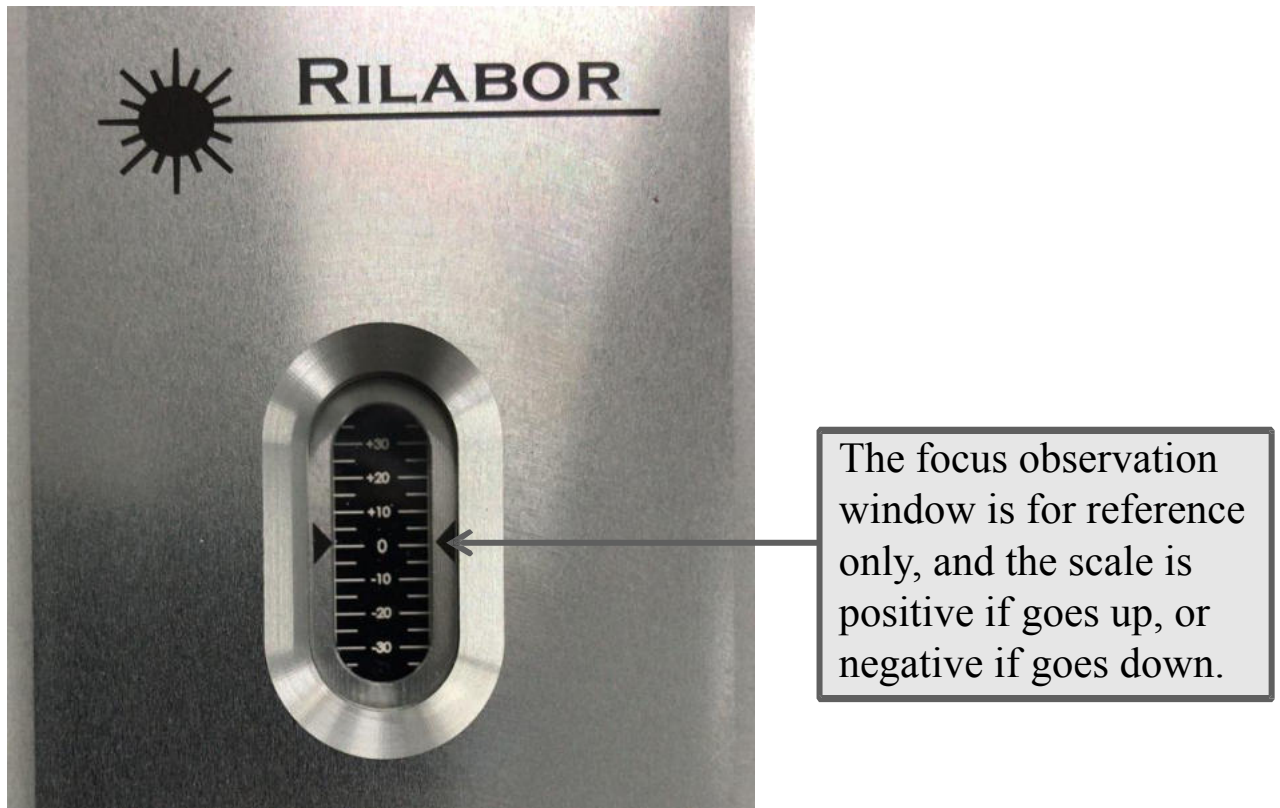

Figure 3.5
② After setting, open the cutting software and reset the focus to observe whether the focus moves, as shown in Figure 3.5: